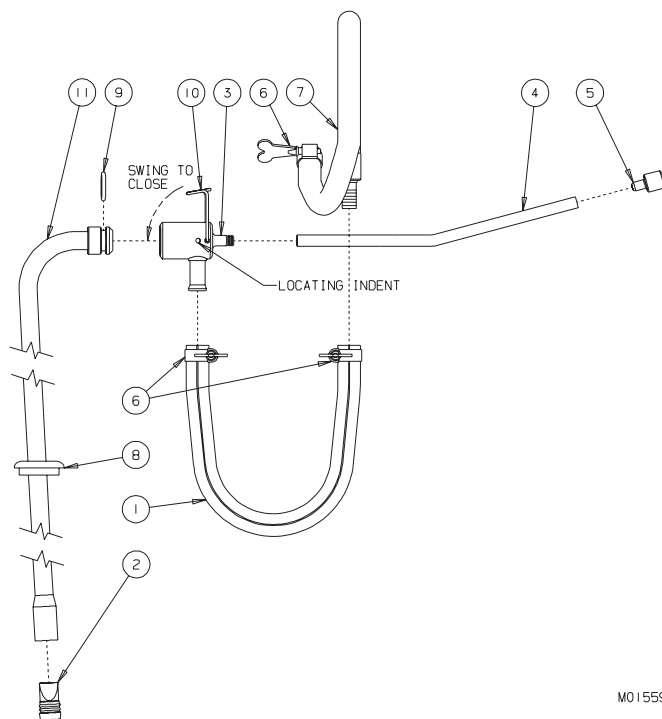

Figure 8-5 MTS Hose Assembly
12. Assemble the MTS hose assembly as shown in figures 8-5 and 7-6. The transfer hose has a red locating line. Hold the mix/air inlet port with the transfer hose mix port on your right and the barbed air port facing away from you. With the locating line up, slide the mix transfer hose onto the port. Then slide a clamp over the hose to secure it to the port. Finger tighten only! The thumbscrew must lie parallel to the mix/air inlet port.